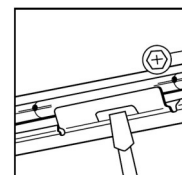

Fig. 6
5. Slide fixture along hanger bars to desired location. Use locking screws or slot to secure (Fig. 6).